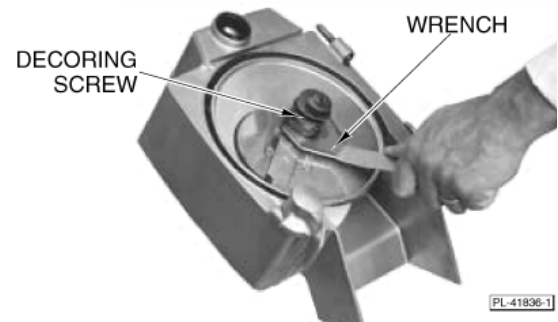

Fig. 5
4. Remove the decorating screw by turning it clockwise with the wrench (Fig. 5).